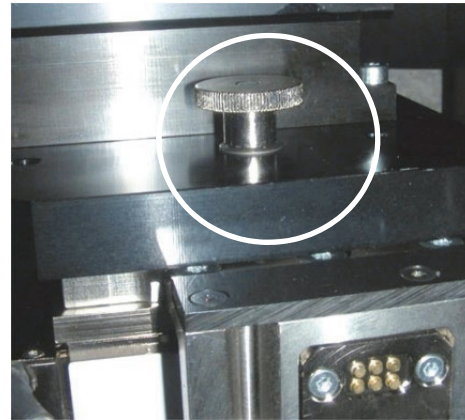

Figure 5.7: Fixing the detector with the knurled screw.
3. Rotate it until its base plate touches the three balls of the support point and fix the detector with the knurled screw (Figure 5.7).